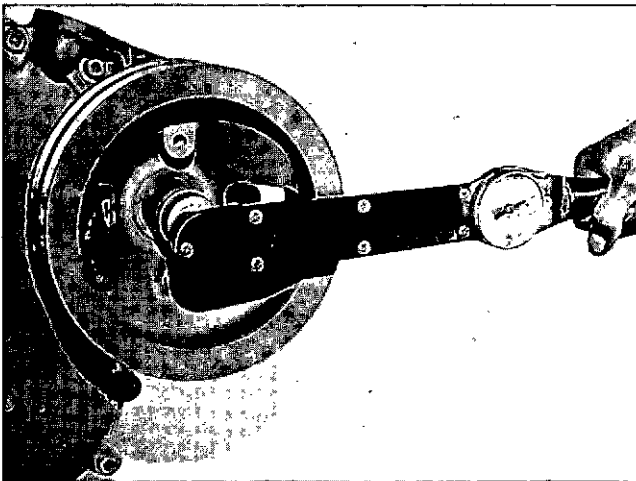

Fig. 14-1-55, V414155. Torquing pulley self locking nut
4. Install washer and self-locking nut; torque to 90 to 110 ft-lb [12.4470 to 15.2130 kg m]. Fig. 14-1-55.